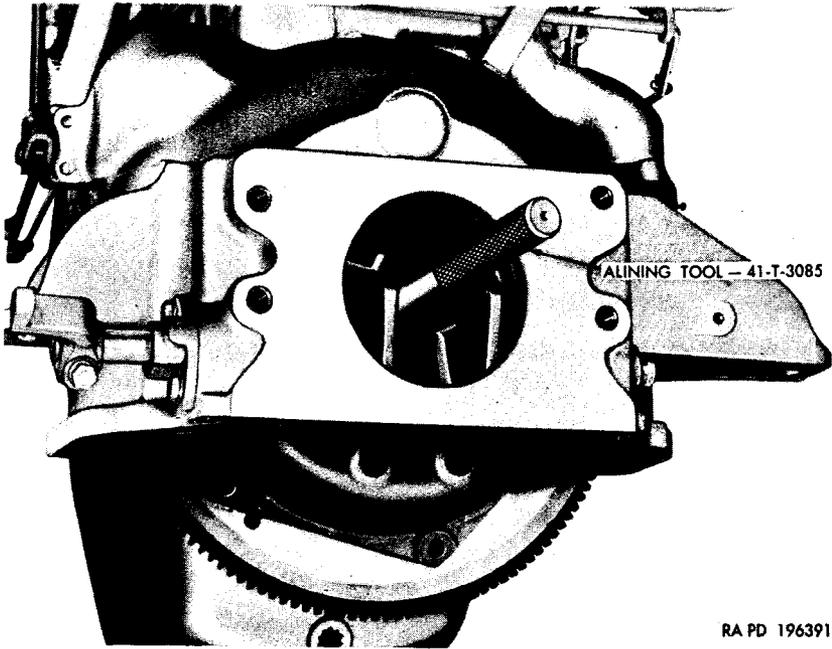

Figure 158. *Aligning clutch parts.*
- (2) Insert the clutch alining tool 41-T-3085 through the pressure plate, disk, and into the pilot bearing to aline the parts (fig. 158). Tighten the six bolts evenly to 15 to 20 pound-feet torque, using a torque-indicating wrench. Remove alining tool.
- (3) Install the clutch release bearing (*d* above).
- (4) Install the clutch housing pan and pan plate (par. 188*d*).
- (5) Install the transmission (par. 194*c*).
- (6) Adjust clutch pedal (par. 187*b*), if necessary.